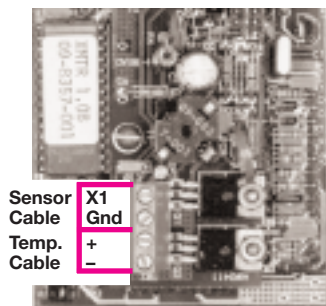

Figure 4
3. Connect black wire of temperature cable, (twisted pair), to negative (-) TEMP terminal of TB2. Refer to Figure 4.
4. The other wire from twisted pair, (red or white), is connected to positive (+) TEMP terminal of TB2. Refer to Figure 4.